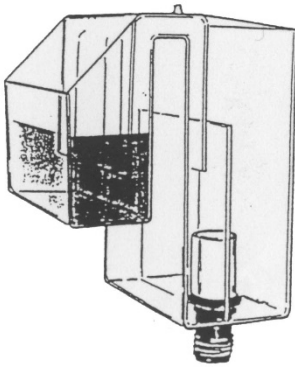

Fig. 2
3. Fix unit in appropriate position to your aquarium and allow water to fill the front chamber (Fig. 2). With the bottom adjusting knob, you can adjust the unit so that it is parallel to the tank.